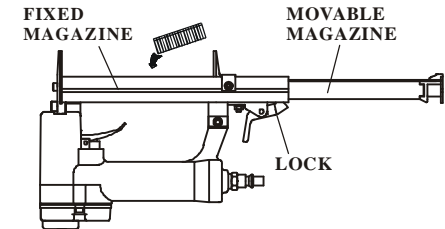

Figure 3
1. Depress the LOCK(50) to release the MOVABLE MAGAZINE (45) and pull the magazine out fully as shown in Figure 3.
2. Place a full clip of the specified type and size fasteners on the FIXED MAGAZINE (39), up to 180 fasteners may be loaded in the magazine.
3. Push the MOVABLE MAGAZINE ASSEMBLY (45) forward until it is locked.